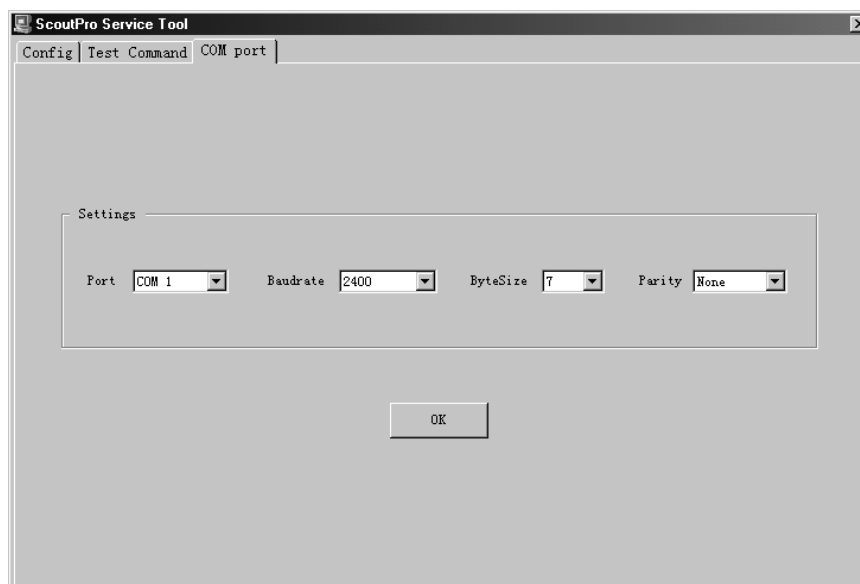

Figure A-5.
2. If the communications parameters have to be set, click on the **Com Port** tab and the screen shown in Figure A-5 will appear. Adjust the parameters as required to match the balance.